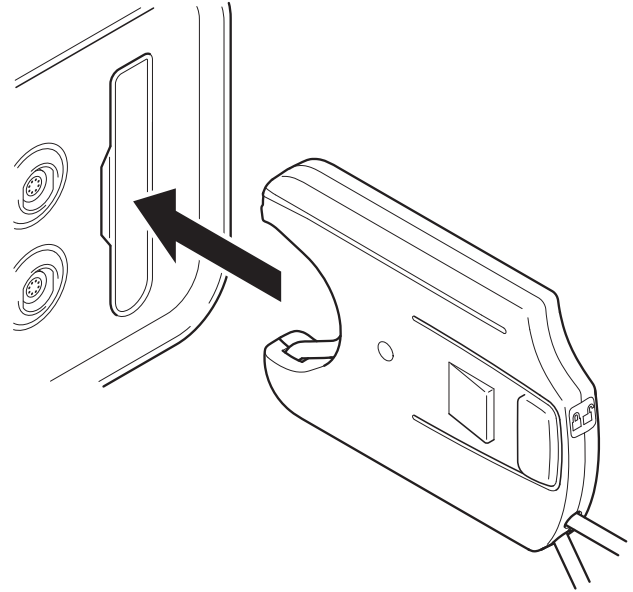

Figure 8 – To Insert an Irrigation Cassette
- 7.2. Insert an irrigation cassette (Figure 8).